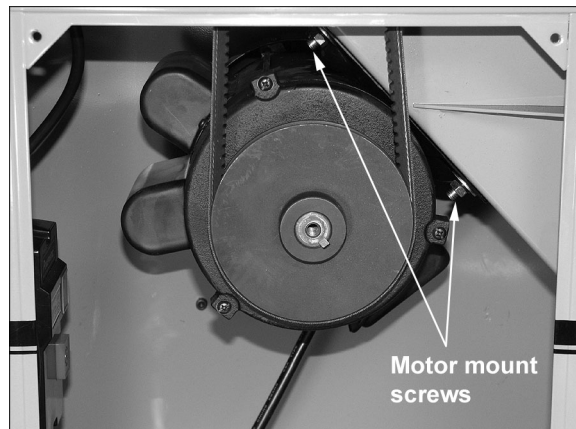

Figure 7
Refer to Figure 7.
3. Reach through the dust chute opening in the side of the stand with a 12mm wrench, and keep the motor mount screw heads stationary, while loosening the hex nuts with a second 12mm wrench from inside the stand (Figure 7).
- Tighten the four hex nuts on the motor mount screws (Figure 7).